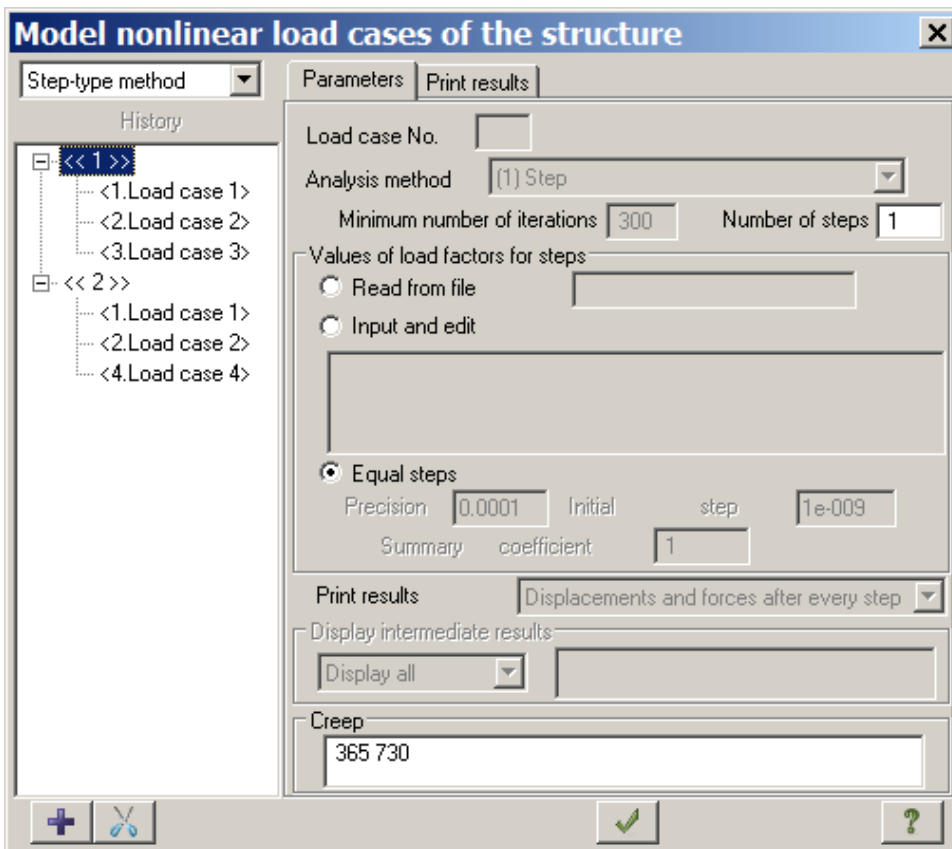

Figure 7.24 Model nonlinear load cases of structure dialog box
- ⇒ To take account of creep in concrete for the first sequence of load application, under **History**, select the first history of loads (see Figure 7.24).